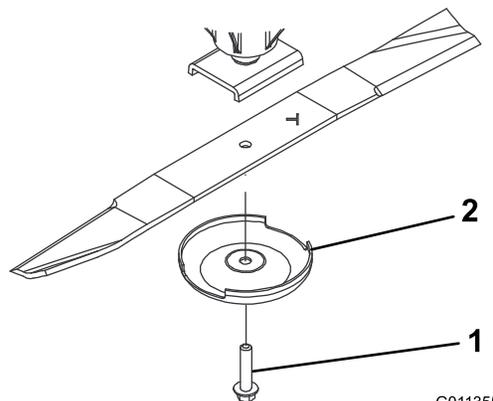

Figure 57
2. Grasp the end of the blade using a rag or thickly padded glove. Remove the blade bolt, anti-scalp cup, and blade from the spindle shaft (Figure 57).
3. Install the blade, sail facing toward the cutting deck, with the anti-scalp cup and blade bolt (Figure 57). Tighten blade bolt to 115–149 N-m (85–110 ft-lb).